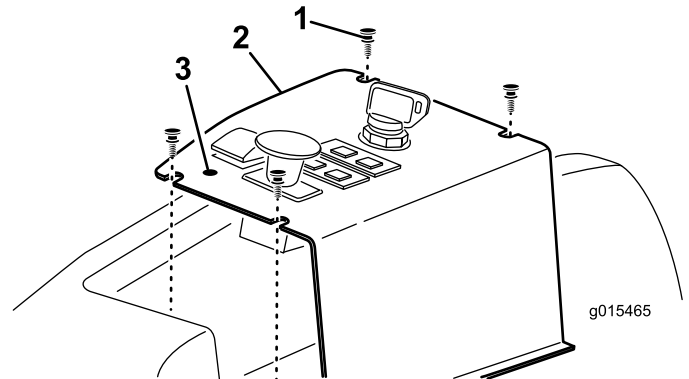

Figure 12
- Carefully locate and puncture the control panel decal material, in front of the lift switch, to expose the mounting hole for the lift lock lever (Figure 12).
1. Mounting screw (4) 3. Mounting hole location
- Remove the (4) screws securing the control panel to the machine (Figure 12).